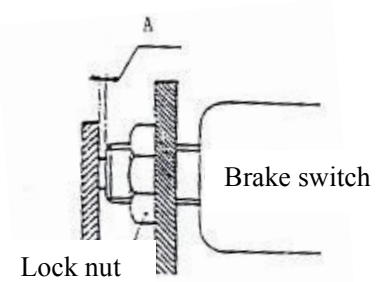

Figure 2-13 Brake light switch
- (5) Adjust the brake switch as shown in Figure 2-13